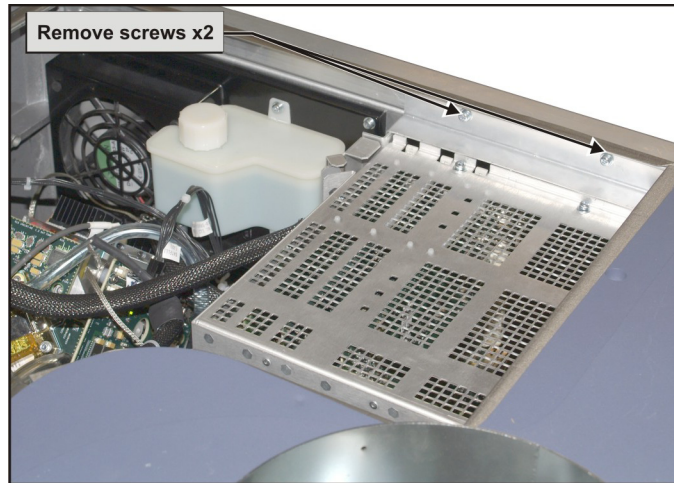

Figure 12 Remove Security Bracket
- Using a #2 Phillips™, remove the 2 screws on the security bracket (above cardcage), which secures the liquid cooling panel (**Figure 12**).